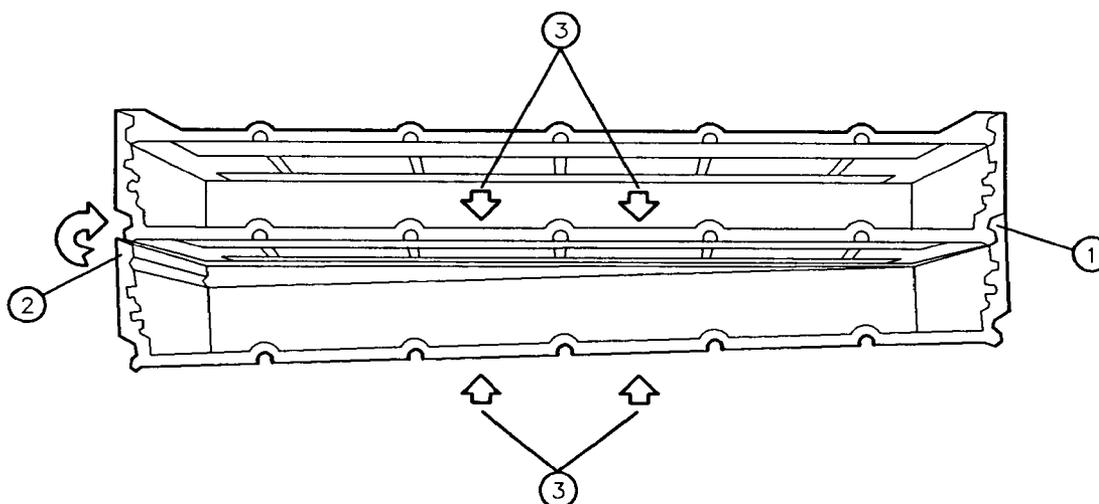

Figure 3-10. IF Extrusion Section Replacement
- Carefully remove the metal filings from each slot (17) on the extrusion section with a wire brush.
2. Place a single extrusion section next to the incomplete extrusion as shown in Figure 3-10.
3. Interlock the joint (1) of the single extrusion section with the joint on the incomplete extrusion assembly.
4. Position the other joint (2) of the single extrusion section against the joint on the extrusion assembly.
5. Squeeze the two adjoining extrusion sections together at the center of each section (3). Press with both hands, using moderate force, until the joint (2) of the single extrusion section snaps into place on the extrusion assembly.